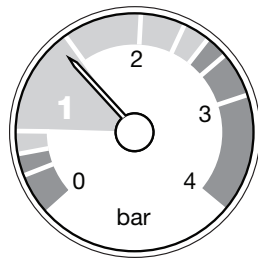
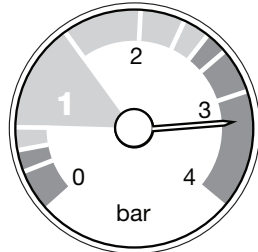

Fig. 1
Fig. 3
1. The normal operating water pressure is between 1 and 2.5 bar (Fig. 1). If the pressure exceeds 3 bar the safety pressure valve will operate and a fault is indicated (Fig. 3). Contact your installer.